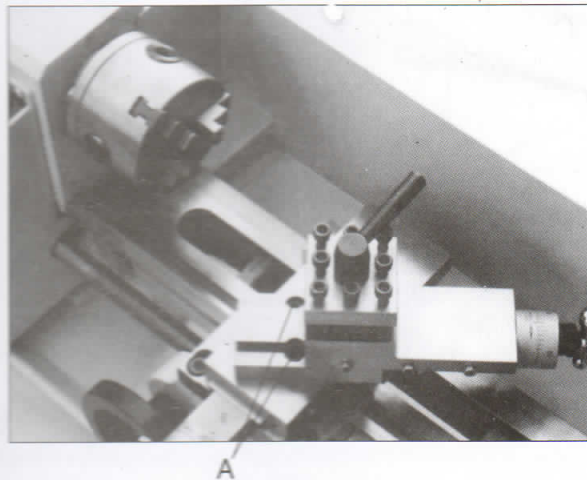

Fig. 8 Compound Rest Adjustment
Loosen the two screws as shown in (A) of Fig. 8. After you have obtained the angle you demand, please do not forget to tighten them.